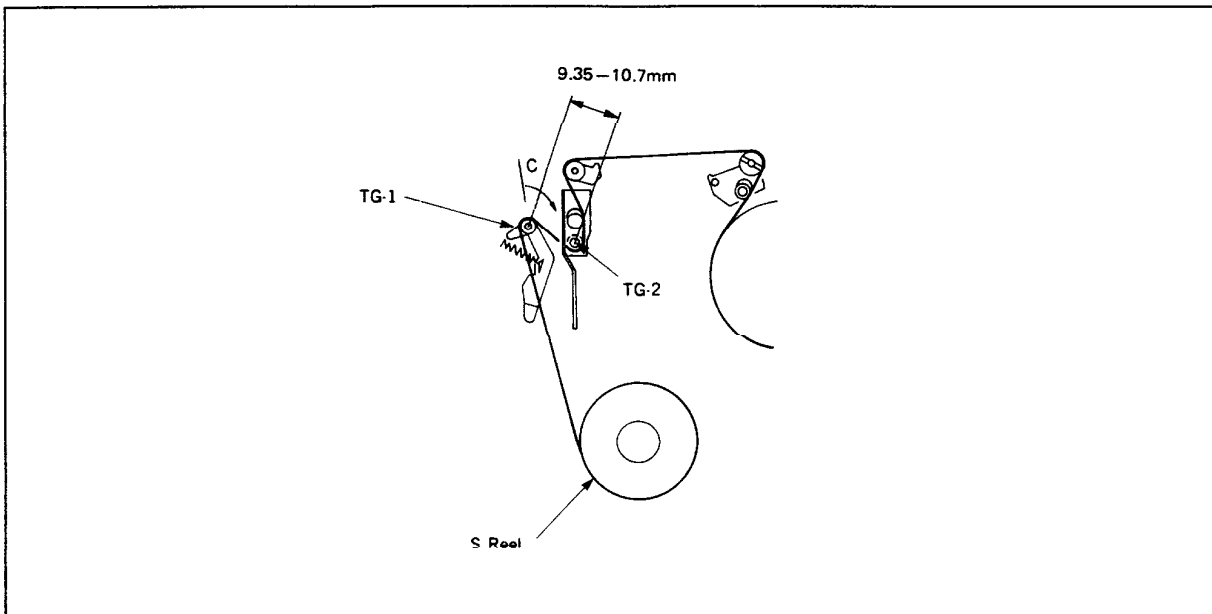
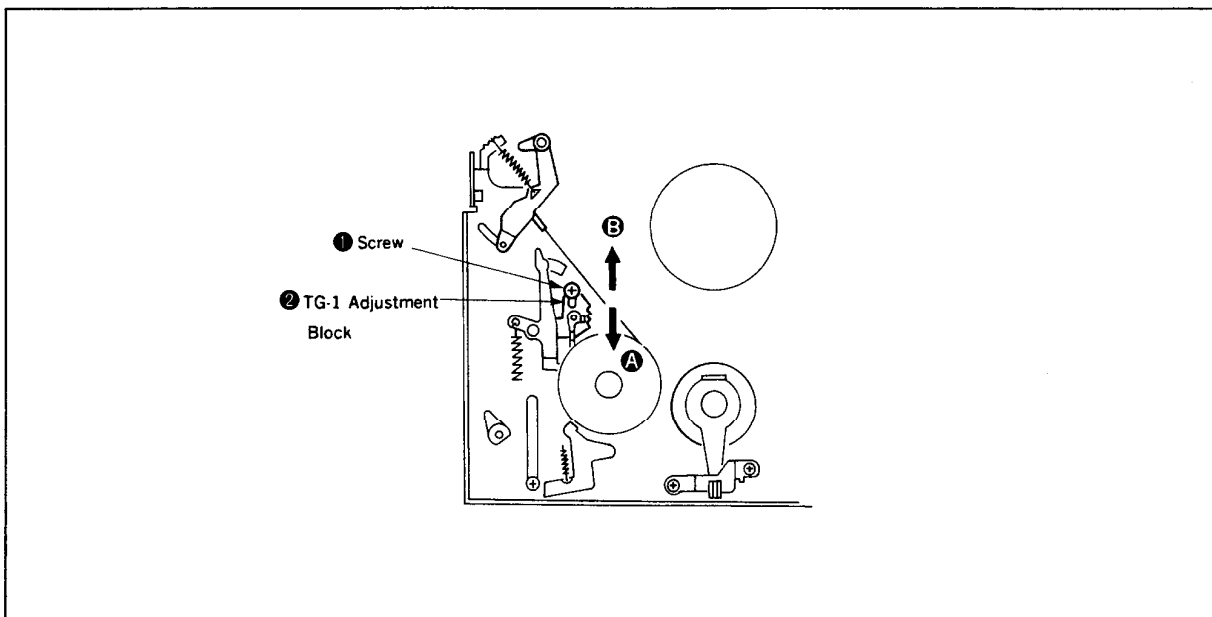

Fig. 47
Fig. 48
- 2) With the tape running, check that the distance between TG-1 and TG-2 is 9.35 – 10.7mm. (Fig. 47)
- 5) Loosen the screw ❶
- 6) When TG-1 is located inside (or outside) its specified position, shift the TG-1 adjustment block 2 slightly in a direction of the arrow **A** (or **B**) and fix with the screw ❶. (Fig. 48)